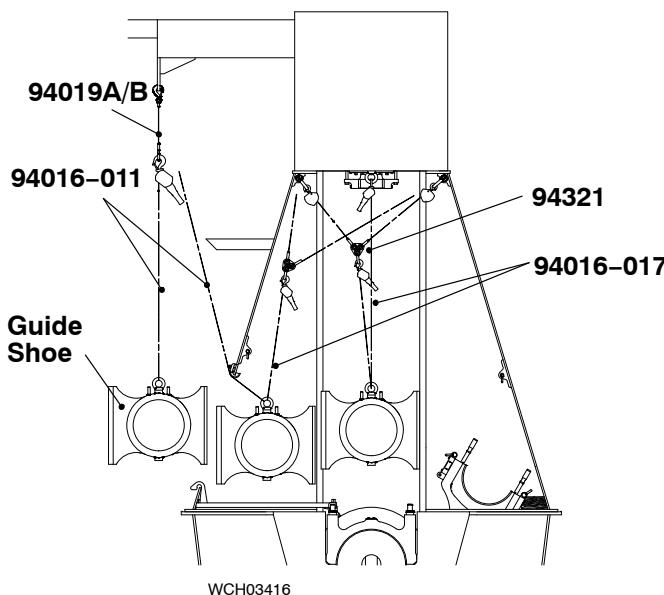

Fig. 9
- 1) Attach the two manual ratchets (94016-017 and 94016-011, Fig. 9) to the eye bolt on the guide shoe.